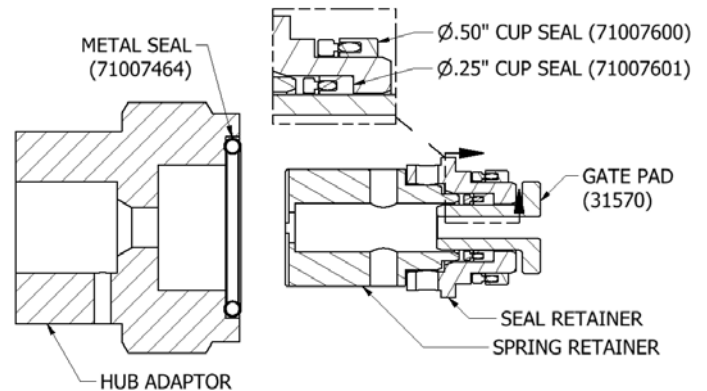

Figure 10 – Gate Pad Assembly Cross Section
- 9.2 Apply O-ring lube to the new .25\" cup seal and install in gate pad seal retainer. Note the seal and hat ring orientation in Figure 10.
- 9.3 Apply O-ring lube to the new .5" cup seal and install on the gate pad seal retainer. Note the seal and hat ring orientation in Figure 10. Place the seal retainer over the spring retainer, then apply O-ring lube to the gate pad shaft and insert it into the seal retainer.